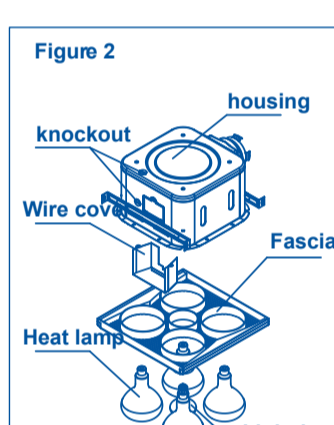

Figure 2
5. Take out three screws from the wire cover and remove the wire cover (Figure 2)